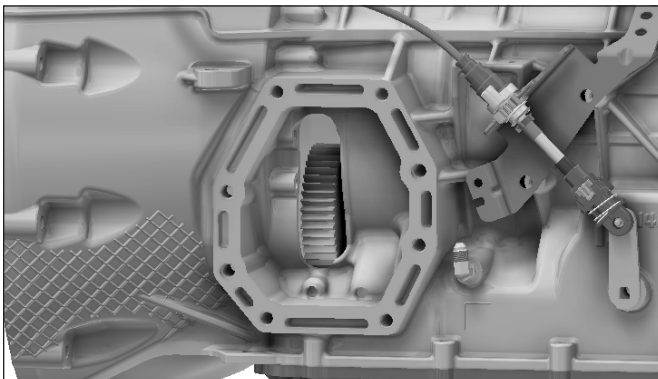
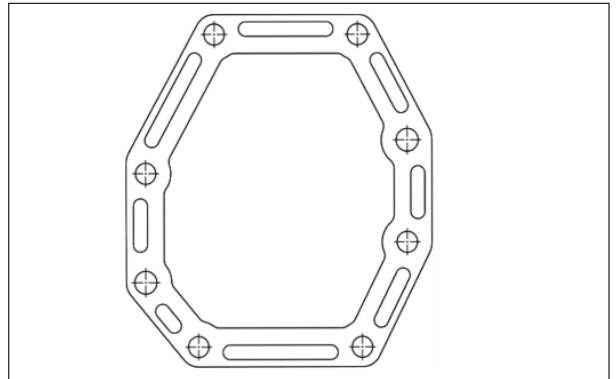

Figure 34
Figure 35
4. Remove and discard the PTO aperture cover plate and gasket. Do not use this gasket when installing the PTO (**Fig. 34 and Fig. 35**).